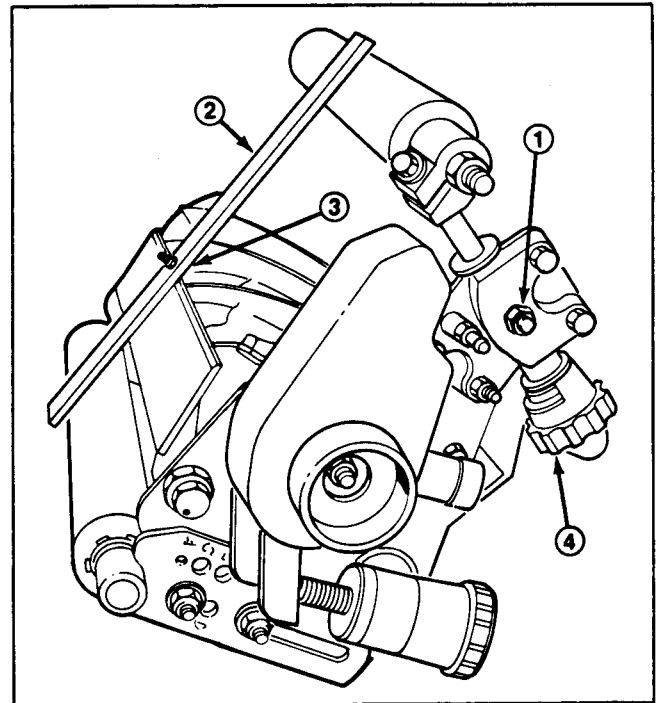

Figure 18
2. Turn cutting unit over and loosen locknuts securing front roller adjusting screws to height of cut brackets (Fig. 18).
4. Place bar across front and rear rollers and adjust height of cut knob until underside of screw head engages bedknife cutting edge (Fig. 18). Check and adjust on each end of bedknife, then tighten height of cut adjustment locknuts on each end.